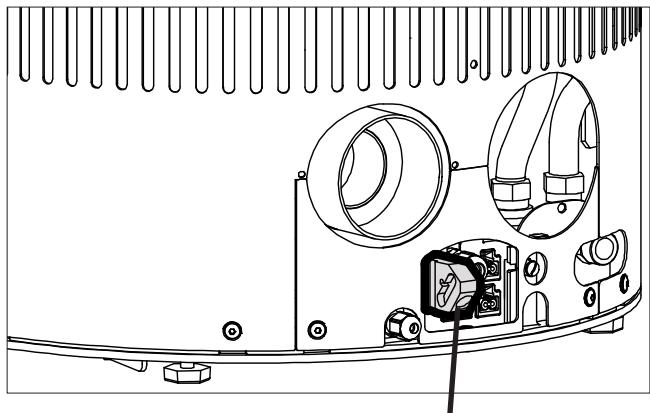

Fig.5
- Plug the provided 5 pole plug into the socket on the rear of the appliance (Fig.5). If the appliance will be operated with accessories (external room thermostat and / or remote control) the connecting lines must be connected to the plug beforehand as described in the accessory instructions.